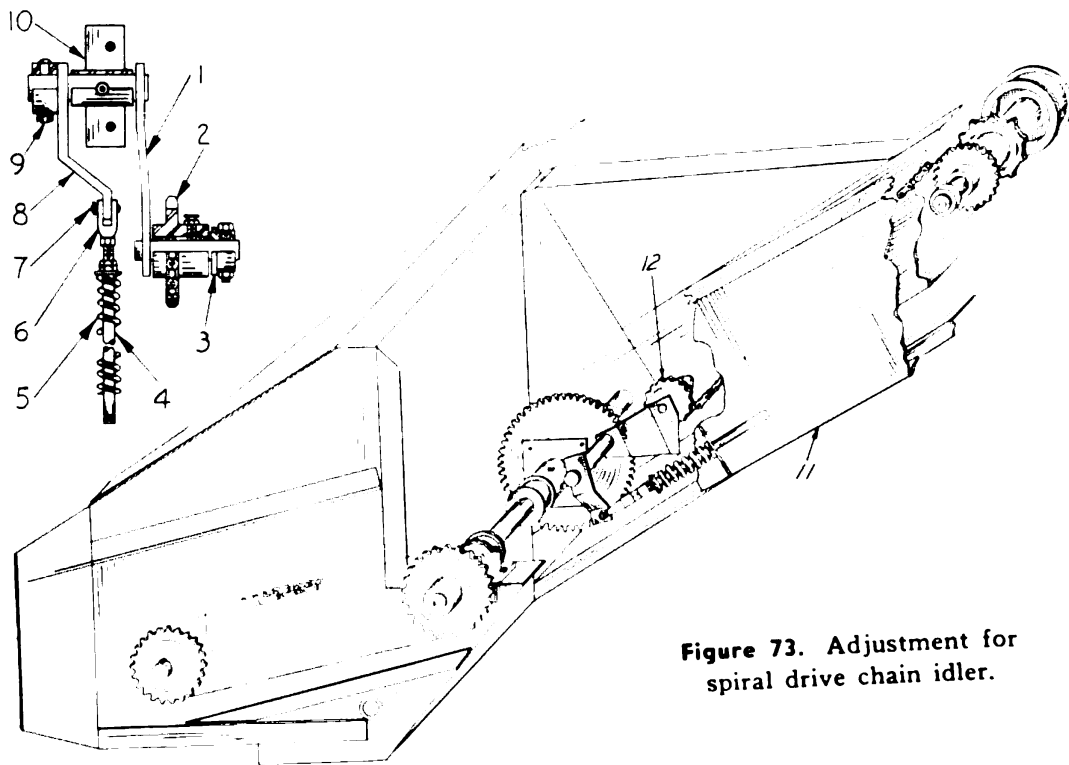

Figure 73. Adjustment for spiral drive chain idler.
Assembled in the lower end of spiral drive chain guard (11) Figure 73 is a spring loaded idler, (12). When properly adjusted the chain should be depressed approximately $1\frac{1}{2}$ " at point where chain runs thru idler. To take up chain loosen lock nut at end of tension spring, (5) tighten adjusting nut until proper depression in chain is obtained. Lock the lock nut.